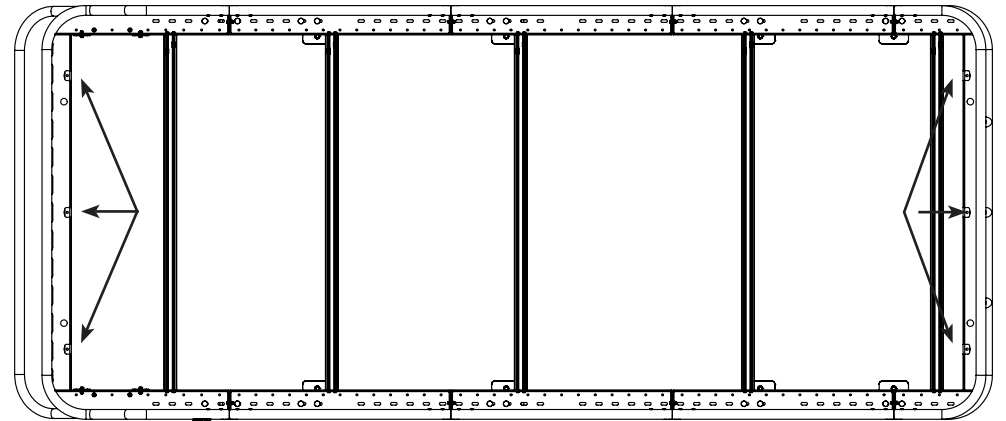

FIG 28
11.1 Attach Clip Nuts to Baskets: Install the **Clip Nuts** to the **Front and Rear Basket** locations as shown in **FIG 28**.